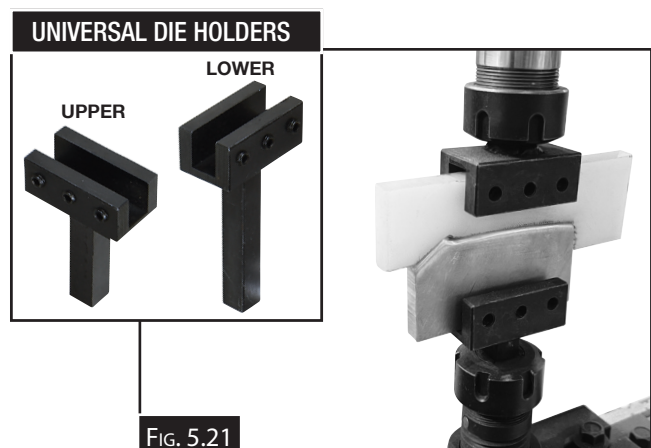

FIG. 5.21
5.10 UNIVERSAL DIE HOLDERS SET-UP (FIG. 5.21)